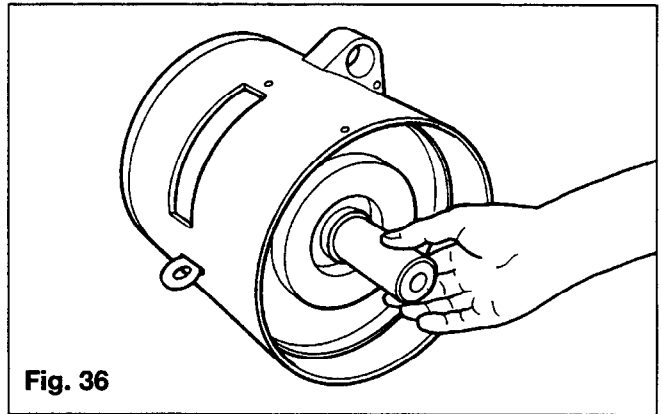

Fig. 36
7. Remove the ball screw cap by slipping it off the ball screw (Figure 36).
Notice: The wire rope or chain anchor hole in the reel should be visible at this time. If not, rotate the reel slightly, winding up the wire rope, until the hole is visible. The swaged fitting on the end of the wire rope has a shank which fits into the anchor hole. The fit should not be tight. If the fit is tight, be careful not to damage the reel assembly when removing wire rope (Figures 36 and 37).